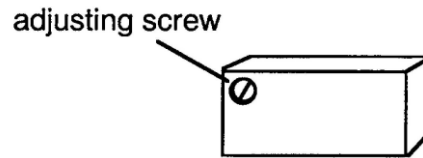

Figure 3-20. Load Cell Gain Adjustment Potentiometer with Adjustment Screw
14. Locate the two load cell gain adjustment potentiometers labelled R17 and R25, which are to the left of the strain link inputs at the bottom center of the enclosure. A tiny screw protrudes from the upper left corner of each potentiometer (see Figure 3-20, page 82).